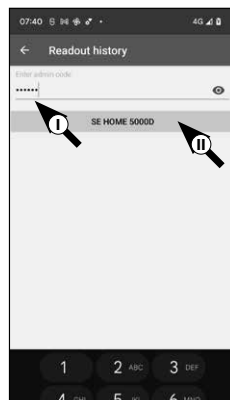

Fig. 91
- 5 Next, you will be prompted to type in your administrator code (I) (Fig. 91).
- 6 Below the entry field is a large button which is automatically titled with the name of the respective cylinder. Tap it to confirm (II) (Fig. 91).